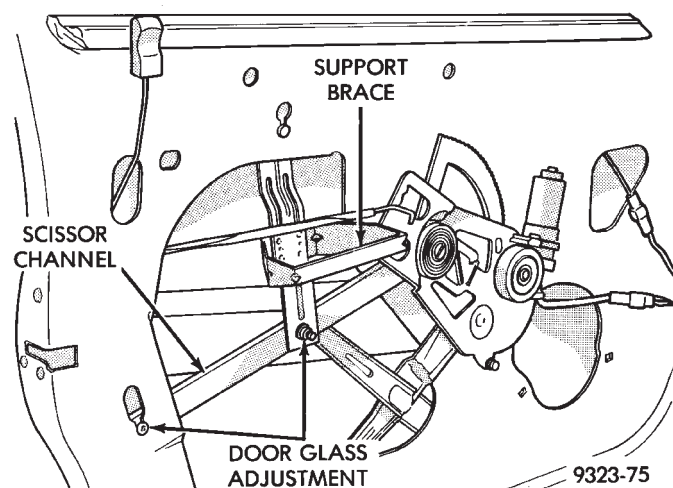

Fig. 19 Front Door Glass Adjustment
- (1) Remove door trim panel.
- (2) Loosen screw holding scissor channel to door panel at rear of access hole (Fig. 19).
- (3) Loosen bolt holding support brace to door panel above access hole.
- (4) Loosen nut holding the scissor channel to the support brace (Fig. 19).
- (5) Position glass in run weatherstrips to achieve smooth operation and proper fit.
- (6) Secure all fasteners and install trim panel.